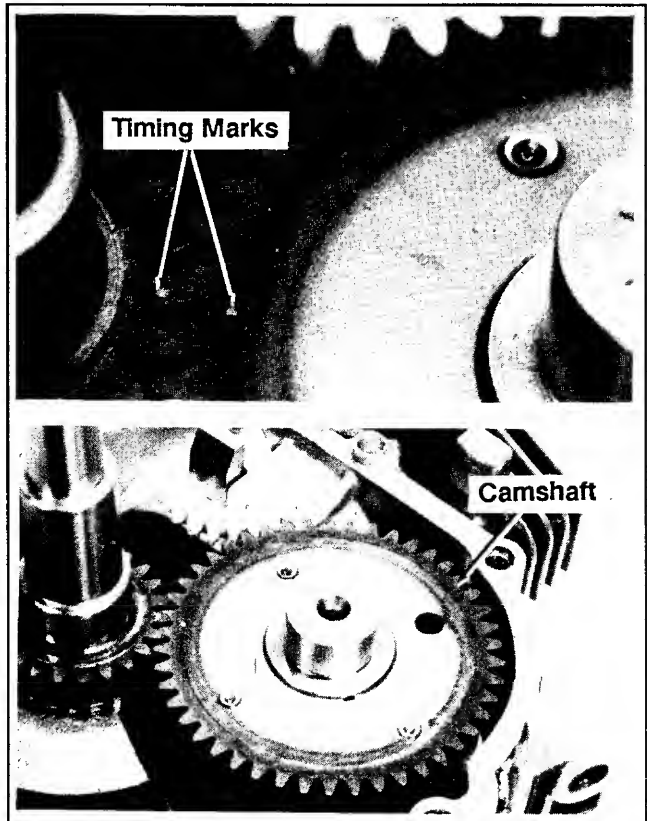

Figure 9-25. Removing Camshaft.
1. Align the timing marks on the camshaft and crankshaft. Remove the camshaft. See Figure 9-25.